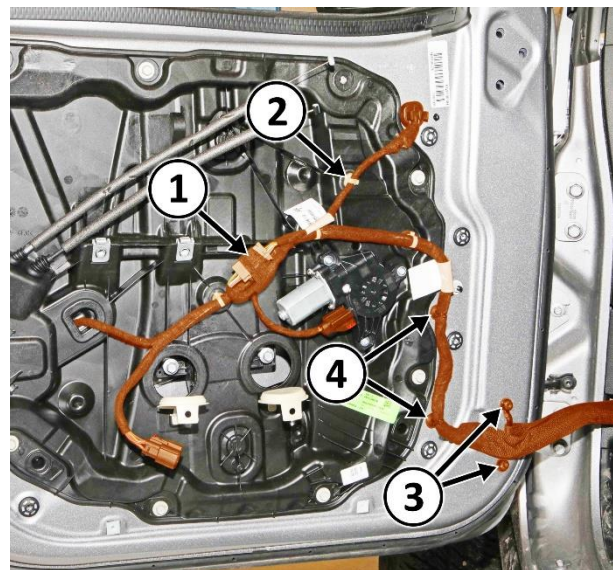

Figure 16 – Wire Harness
27. Disconnect the mirror wire jumper harness connector (1) (Figure 16).
28. Release the mirror wire jumper harness retainer (2) (Figure 16).
29. Remove the door wire harness check strap bracket screws (3) (Figure 16).
30. Release the door wire harness retainers (4) (Figure 16).
42. Install and tighten the door wire harness check strap bracket screws (3) (Figure 16).
43. Install the door wire harness retainers (4) (Figure 16).
44. Install the mirror wire jumper harness retainer (2) (Figure 16).
45. Connect the mirror wire jumper harness connector (1) (Figure 16).